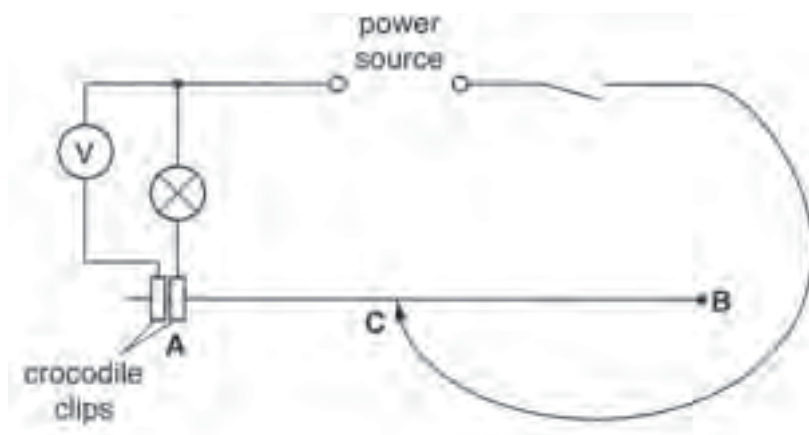

Fig. 3.1
- (v) Two suitable terminals (e.g. crocodile clips) attached to the constantan wire at end **A** of the metre rule so that connections can be made to the circuit shown in Fig. 3.1.
- (viii) Sufficient connecting leads to set up the circuit shown in Fig. 3.1.
1. The circuit shown in Fig. 3.1 must be set up for the candidates.